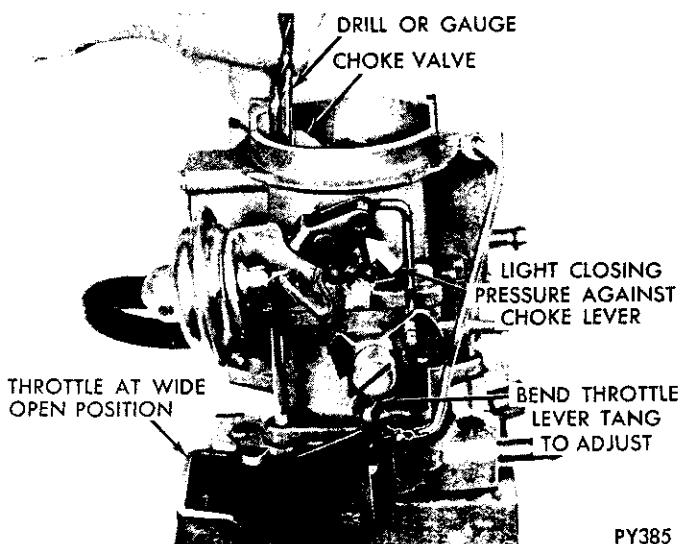

Fig. 17—Checking Choke Unloader Setting
- (1) Hold throttle valve in wide open position. Insert specified drill (see Specifications) between upper edge of choke valve and inner wall of air horn.
- (2) With a finger lightly pressing against valve, a slight drag should be felt as drill is being withdrawn. If an adjustment is necessary, bend unloader tang on throttle lever until correct opening has been obtained. (Fig. 17.)